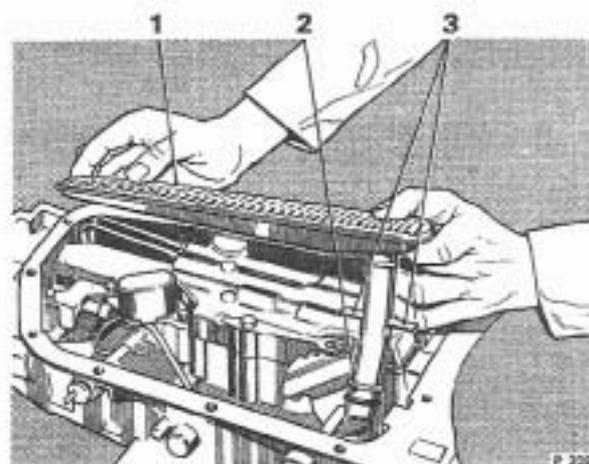

FIG. T186 REMOVING INTAKE PIPE AND FILTER ASSEMBLY
12. Lift out the pump intake pipe and filter assembly (see Fig. T186). Remove the intake pipe from the filter and discard the filter.